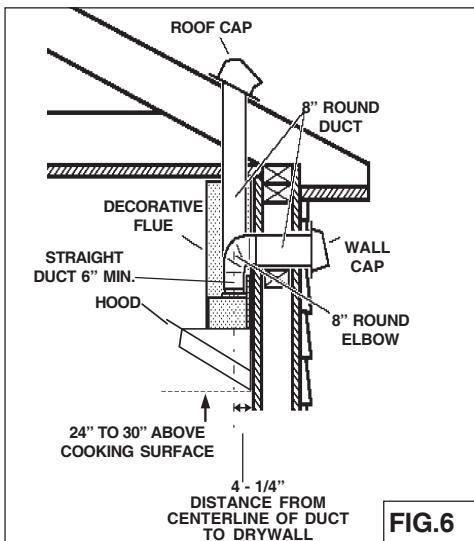

FIG.6
1. Decide where the ductwork will run between the hood and the outside (Fig.6).